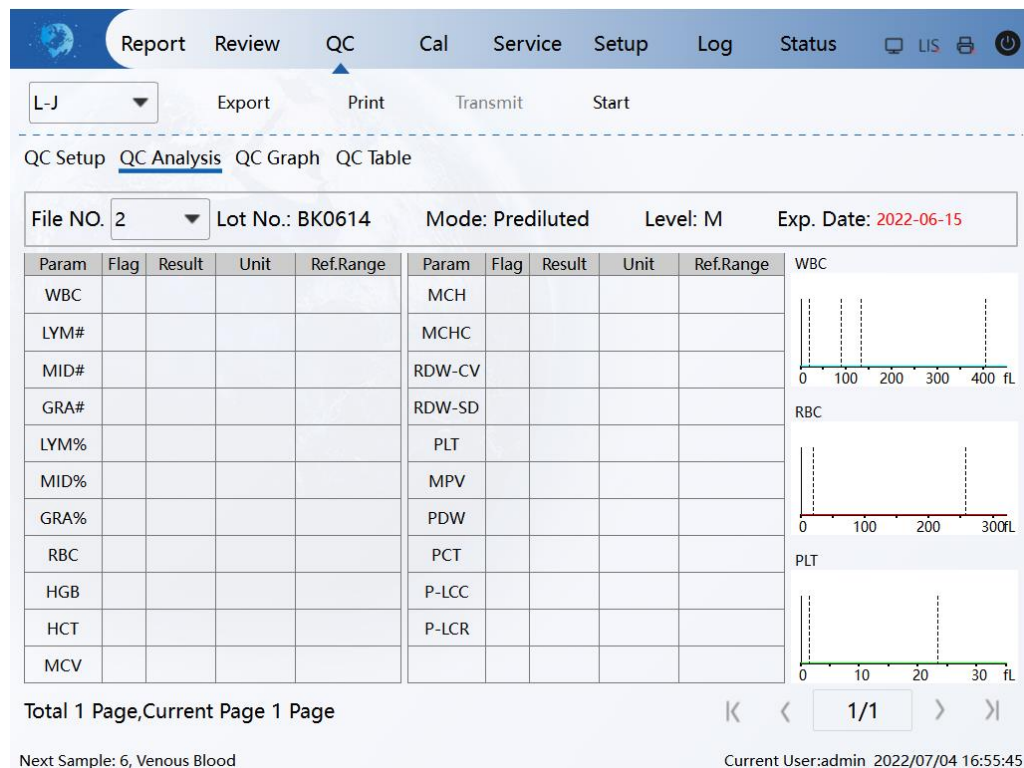

Figure 5-5 QC file information (prediluted mode)
4. Select the File NO. to perform the QC analysis. As shown in Figure 5-5, the interface displays the corresponding QC information.